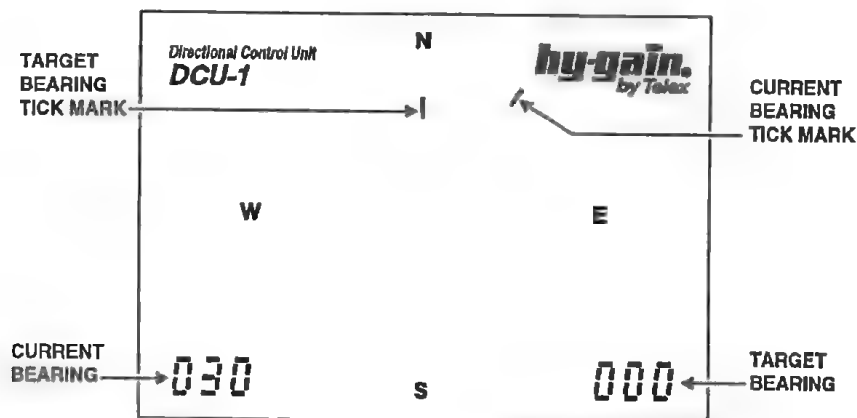

Figure 7
5. The DCU-1 display should look similar to the display shown in Figure 7. The numeric display in the lower left corner indicates the current bearing of your rotator. The numeric display in the lower right corner indicates the target bearing. If both displays read a steady "000", disconnect your control cable and check the cable wiring with an ohmmeter.